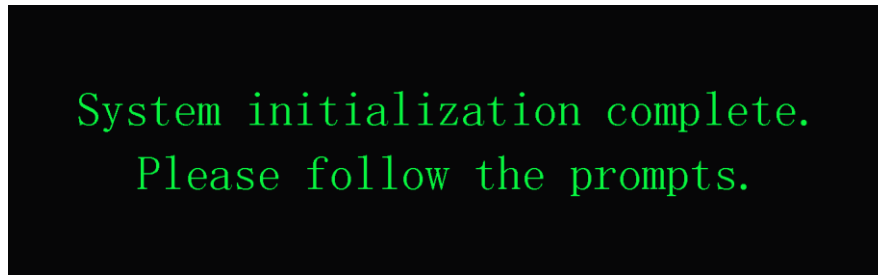

Figure 5-14 The Prompt of Alignment
- (1) When the Terminal is used for the initial time, the 'App' for Terminal Control should be used first, to set up the satellite related parameters. Please see the operational instructions in section 7.
- (2) The 'App' for Terminal Control should also be used if it is necessary to select a different satellite. Please see the operational instructions in section 7.
5. When the Terminal is ready to align with the satellite, as shown in Figure 5-14.